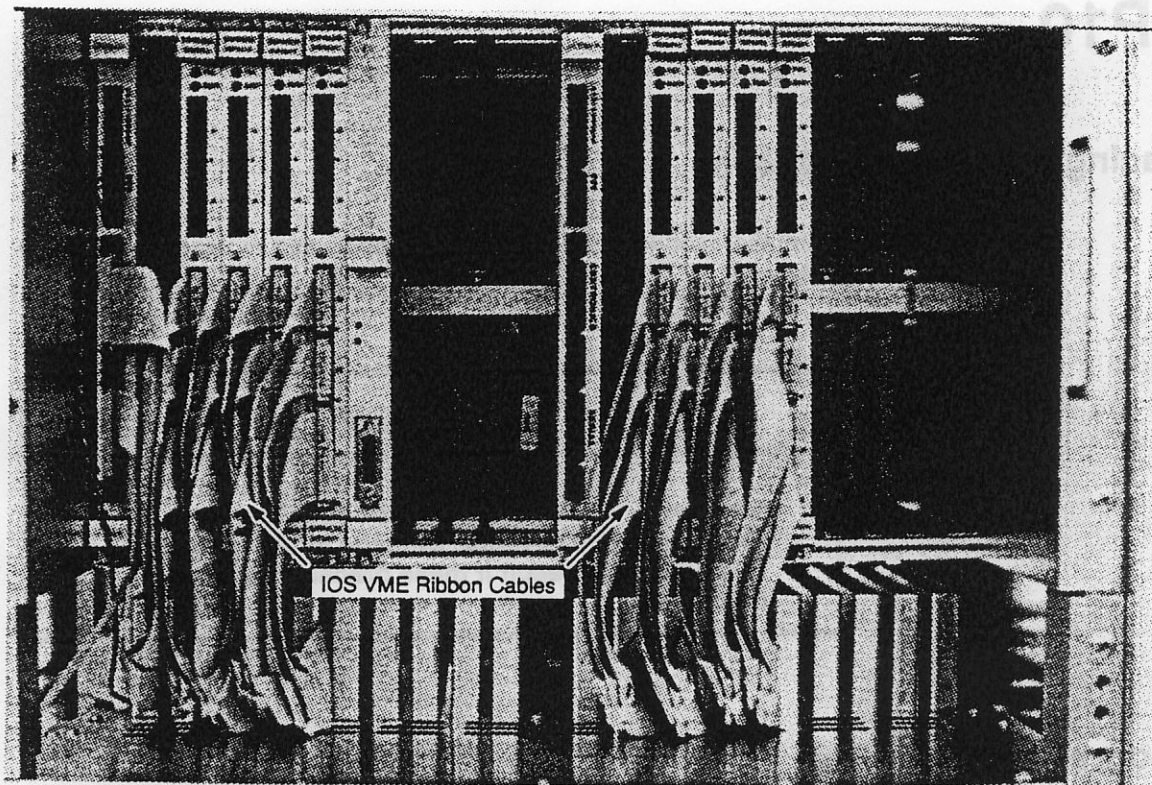

Figure 7-9. IOS VME Boards
The VME IOS boards are the controllers for the individual peripherals. If a peripheral seems to be faulty, consider also that the controller may be failing. A photograph of the IOS VME boards is shown in Figure 7-9.
2. Label and remove the front ribbon cables from each IOS board. Refer again to Figure 7-9.